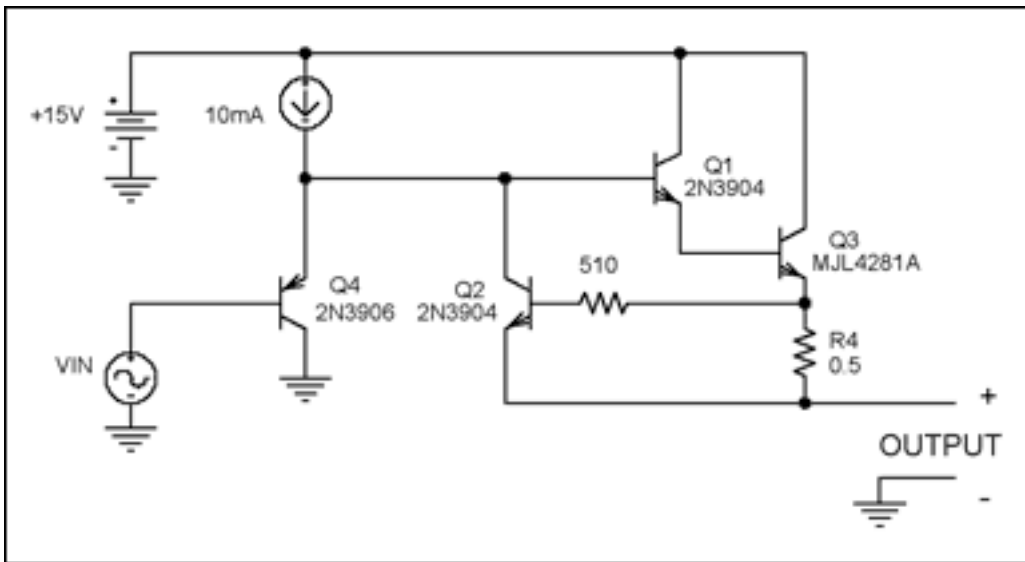
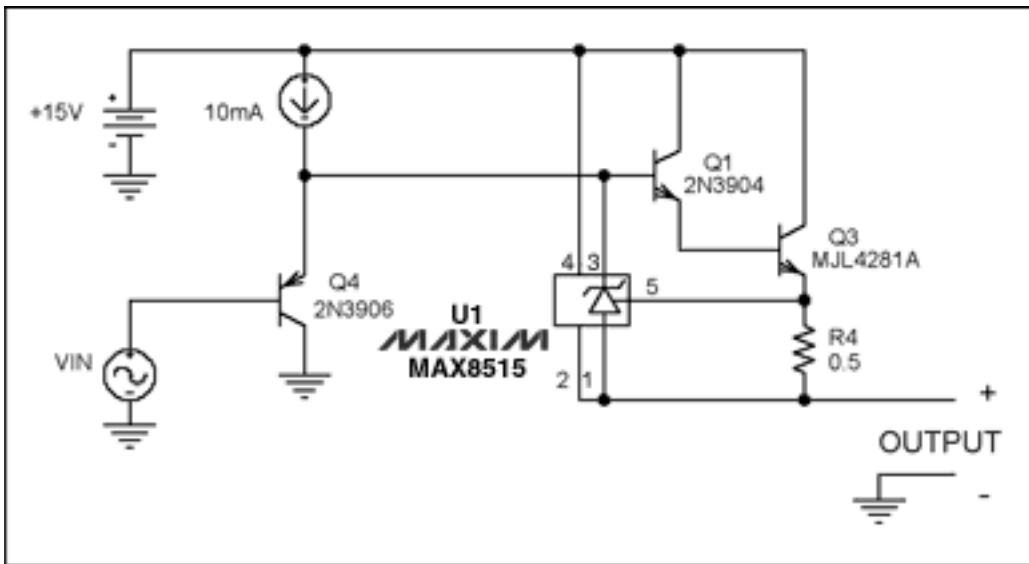
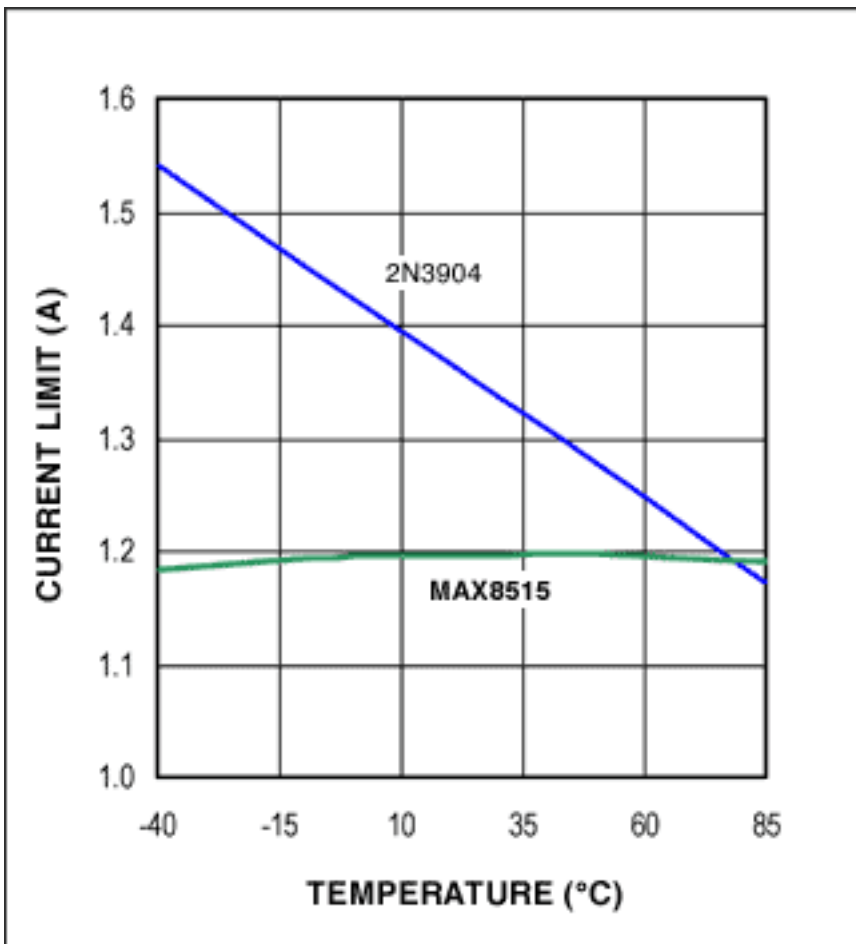

Figure 1. A small-signal transistor (Q2) provides an output current limit for this power amplifier.
Figure 2. Substituting a shunt regulator (U1) for Q2 in the Figure 1 circuit improves the current-limit accuracy.
Figure 3. Current-limit accuracy versus temperature for the circuits of Figure 1 (top trace) and Figure 2 (bottom trace).
Adding current-limiting circuitry to an emitter follower protects both the pass transistor and downstream circuitry from excessive current damage. The classic way to implement such current limiting is to add a ballast resistor between the pass transistor's emitter and the circuit output, and then monitor the resistor drop with a small-signal transistor. See R4 and Q2 in the power amplifier (or linear regulator) shown in **Figure 1**.
An adjustable shunt regulator (U1 in **Figure 2**) is preferable to the small-signal transistor for sensing current. This IC is chosen for its low-input threshold (0.6V), which is lower than that of common shunt regulators (1.25V to 2.5V). In addition, the IC's separate power-supply input allows it to maintain accuracy as the internal output transistor approaches saturation.
**Figure 3** compares current-limit accuracies of the small-signal-transistor version of Figure 1 with the shunt-regulator version of Figure 2. The transistor version exhibits a 25% change in current-limit threshold over the operating temperature range, while the shunt-regulator provides better than 2% accuracy over that range (neglecting the temperature coefficients of the sense resistors).